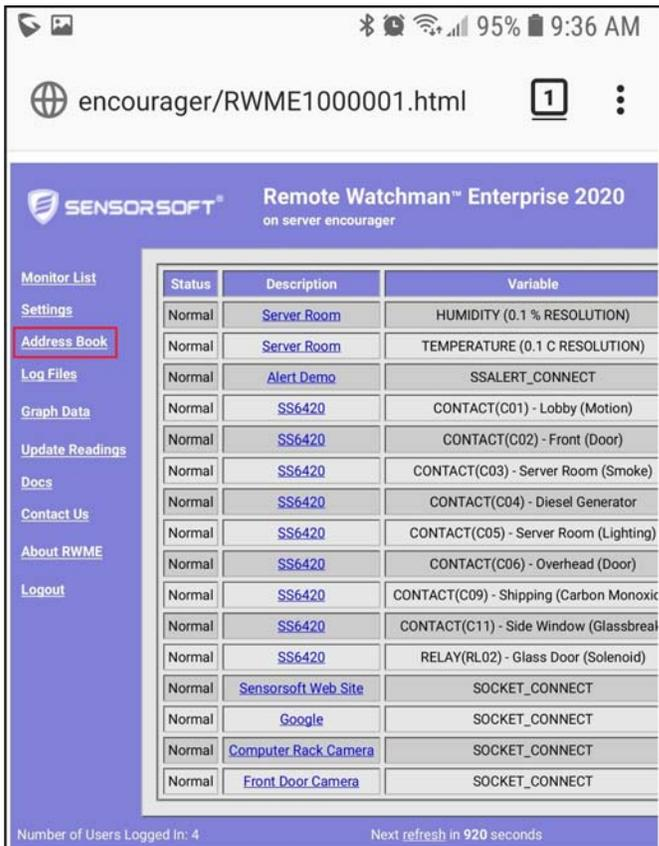

Figure 16: Smart phone screen with Address Book link shown
5. Tap the Address Book link as in Figure 16.